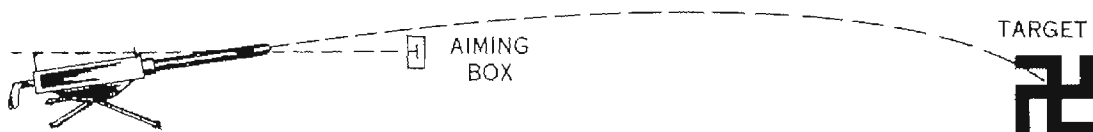

Figure 23
c. After the gun has been laid on the target and the information recorded, the gunner refers his rear sight to the slit in the box without moving the gun, and records the sight reading on his range card. On his return to the gun position at night, he lays the gun on the target by setting off the recorded data on the traversing and elevating mechanisms. Then he sets the rear sight at the reading marked on his range card and sights through it (fig. 23).